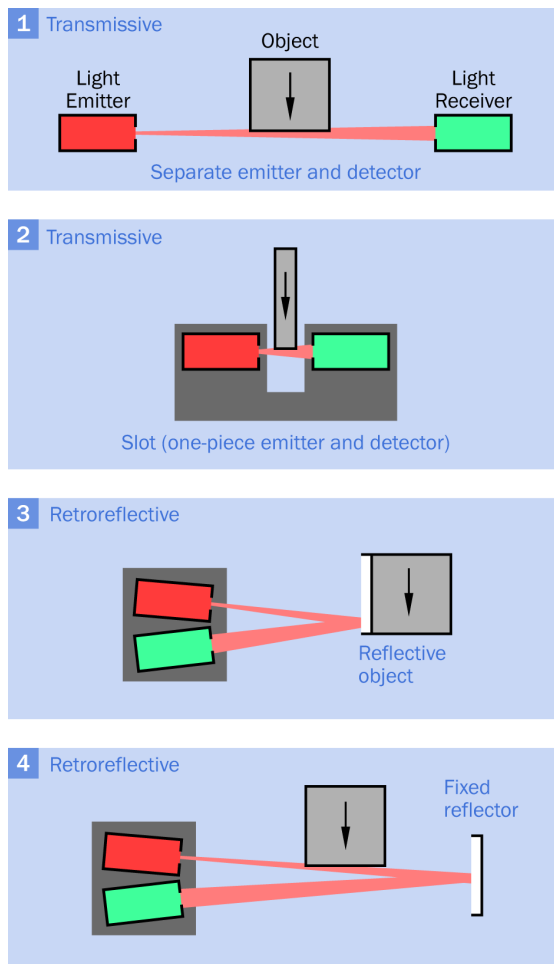

Figure 3-3 Various configurations of optically activated object presence sensors. See text for details.
interrupts or reflects the light beam, as shown in Figure 3-3.
If the light emitter and the light detector face each other across a small gap, they may be contained in a single module (usually with a slot in it) as shown in section 2 of Figure 3-3. This is often referred to as an *optical switch* (not to be confused with the solid-state switching devices used in telecommunications). It is sometimes described as a *photointerruptor* or *photointerrupter*.
- An object passing in front of the light beam reflects it back to the detector. The object must be naturally reflective (for example, glass containers or white boxes on a conveyor), or must have a reflective patch applied to it, or the light source must be bright enough to reflect from an object that is not highly reflective. This configuration is shown in section 3 of Figure 3-3.
- A stationary reflector can be mounted opposite the light emitter, in which case a detector beside the light emitter is triggered when an object interrupts the reflected light beam. This configuration is shown in section 4 of Figure 3-3.